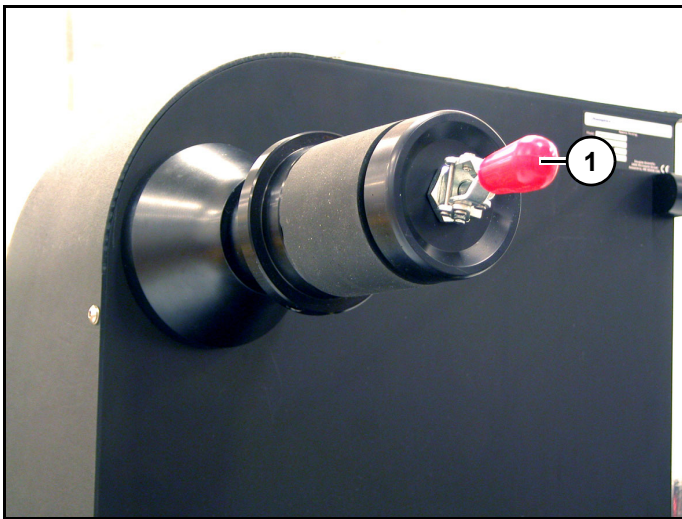

Figure 7
1. Release handle (1) on rewind spindle (2) (Figure 7).